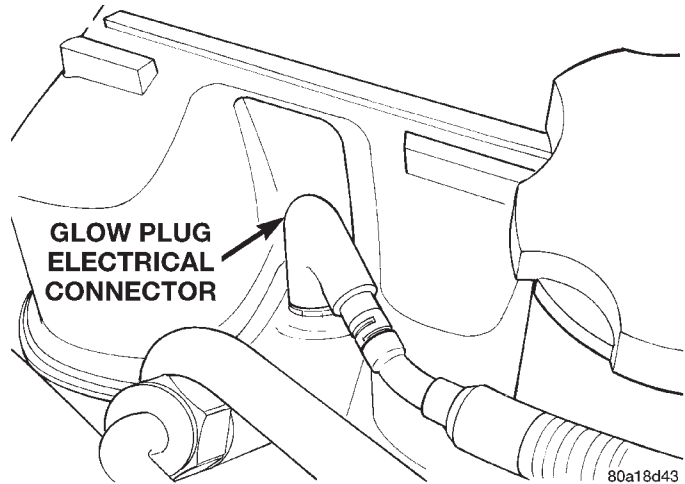

Fig. 9 Glow Plug Connector
- (1) Be sure that the battery connections are tight and not corroded.
- (2) Be sure that the 60 way connector is fully engaged with the PCM.
- (3) Be sure that the 68 way connector is fully engaged with the ECM.
- (4) Verify that the electrical connections for the ASD relay are clean and free of corrosion. This relay is located in the PDC. For the location of the relay within the PDC, refer to label on PDC cover.
- (5) Verify that the electrical connections for the fuel heater relay are clean and free of corrosion. This relay is located in the PDC. For the location of the relay within the PDC, refer to label on PDC cover.
- (6) Be sure the electrical connectors at the ends of the glow plugs (Fig. 9) are tight and free of corrosion.